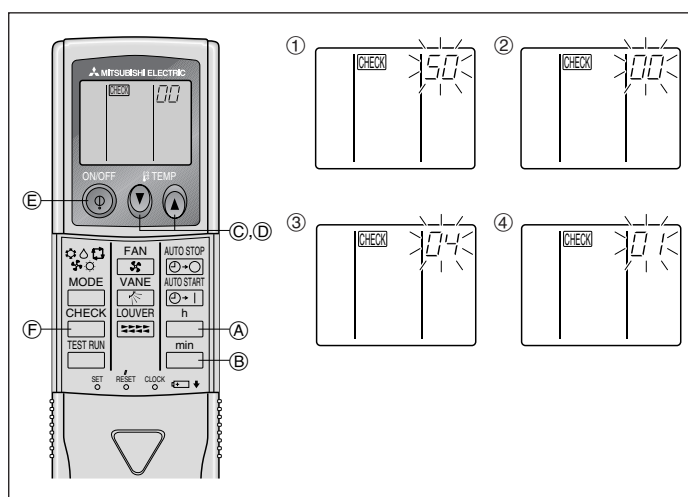

Fig. 6-9
⑧ Press the MODE button (E) and mode and the setting number (I) and (II) will change to being on constantly and the contents of the setting can be confirmed.
⑨ Press the FILTER (A) and TEST RUN (B) buttons simultaneously for at least two seconds. The function selection screen will disappear momentarily and the air conditioner OFF display will appear.
2) For wireless remote controller (Fig. 6-9)